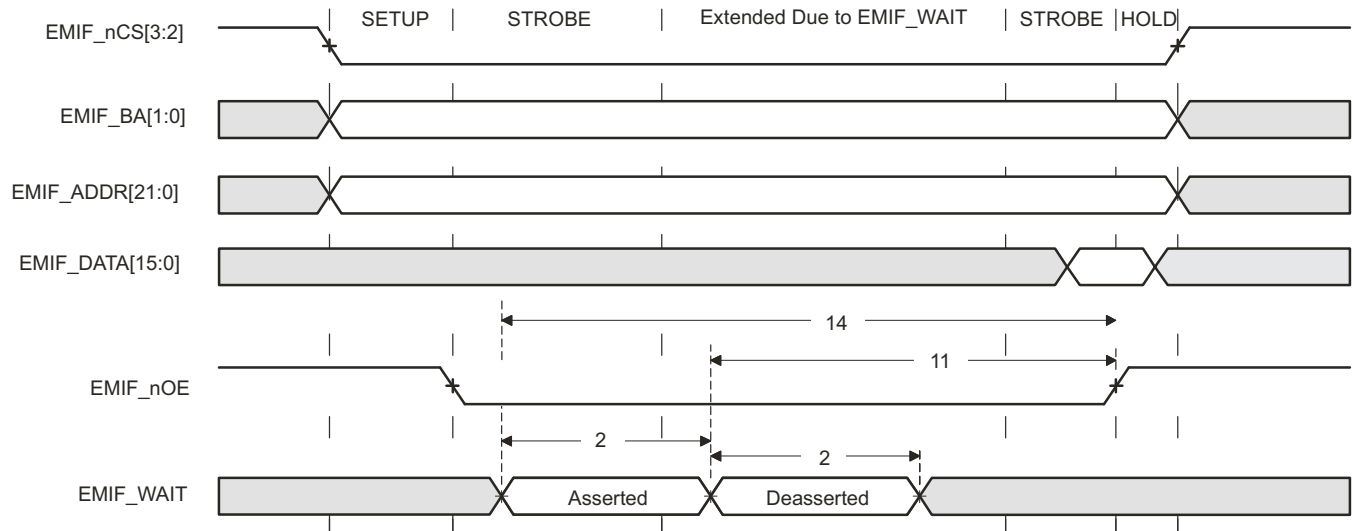
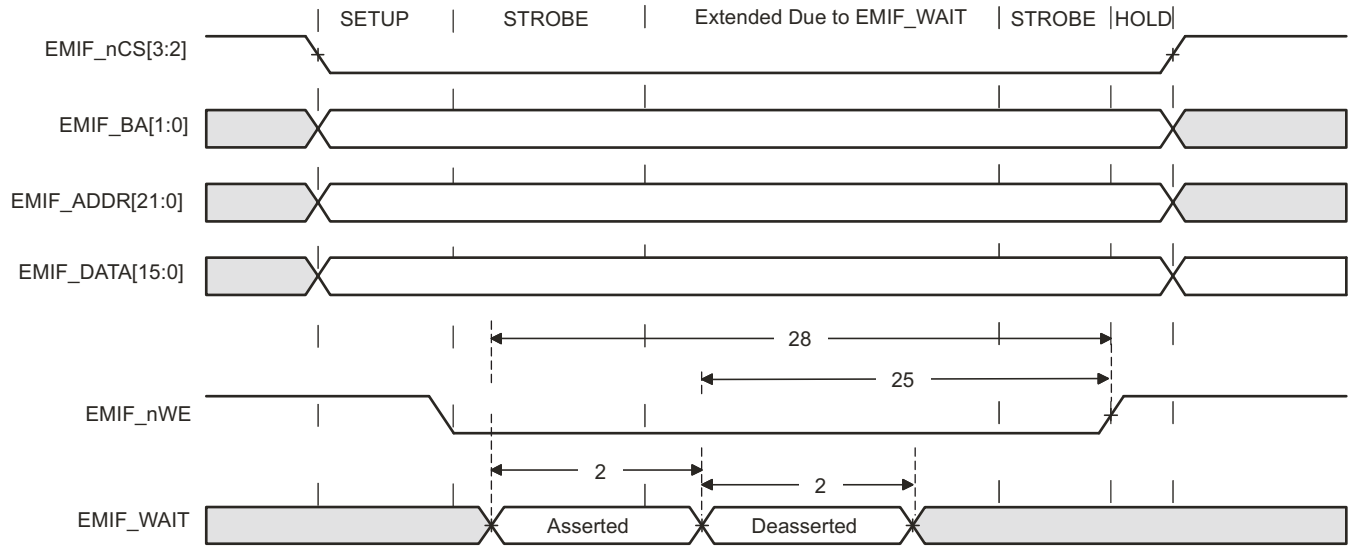

图 6-12. EMIFnWAIT Read Timing Requirements
图 6-14. EMIFnWAIT Write Timing Requirements
(1) E = EMIF\_CLK period in ns.
(2) Setup before end of STROBE phase (if no extended wait states are inserted) by which EMIFnWAIT must be asserted to add extended wait states. 图 6-12 and 图 6-14 describe EMIF transactions that include extended wait states inserted during the STROBE phase. However, cycles inserted as part of this extended wait period should not be counted; the 4E requirement is to the start of where the HOLD phase would begin if there were no extended wait cycles.